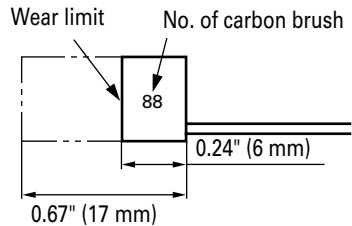

Fig. 7
3. Inspecting the carbon brushes (Fig. 7)
- Use HITACHI carbon brush No. 88 indicated in Fig. 7.